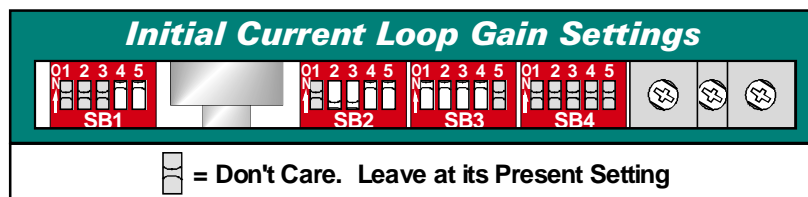

Figure 5.11 Initial Setting of Determining Current Loop Gain
- 3) Set the switches on the SD17063 to the values given in figure 5.11. The Pulse Train Input, Anti-Resonance, Anti-Resonance Phase, Current Control, and Motor Current setting have no effect and should be left at settings you have determined for your system.